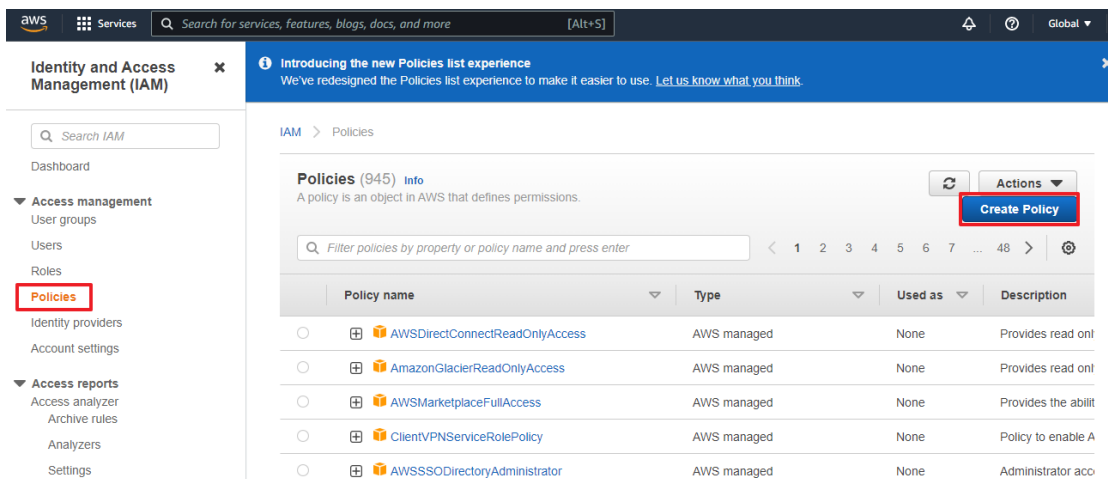

Figure 4-148 Ready to create IAM Role Policy
11. Click on the "Policies" option on the left-hand side of the dashboard and proceed to create a Policy for "Put Object" operation to the S3 Bucket (as shown in Figure 4-148).